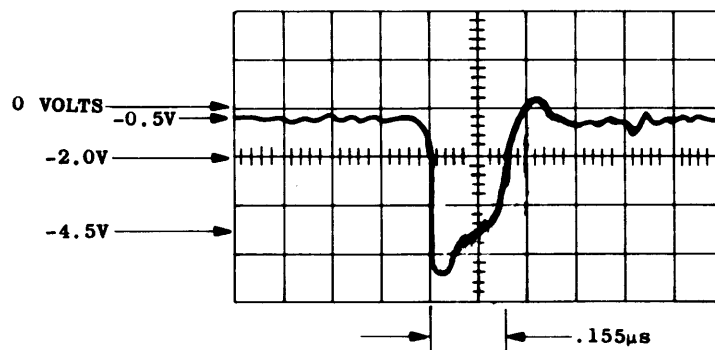

FIGURE 3.2-2 DRBL WAVE SHAPE AND ADJUSTMENT TABLE
4. Set the pulse width, (at the -2 volt level) to .155 microseconds by adjusting the pot on the DRBLs using Figure 3.2-2.